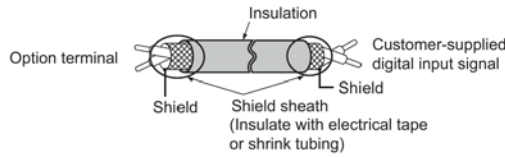
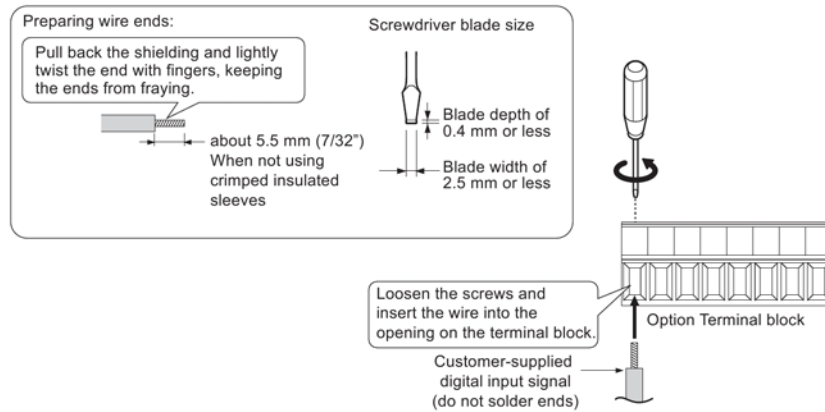

Figure 7: Preparing Ends of Shielded Cable
Figure 8: Preparing and Connecting Cable Wiring
2. There are two screw holes on the drive for use as ground terminals (I). When connecting three options, two ground wires will need to share the same drive ground terminal.
4. Prepare and connect the wire ends as shown in Figure 7 and Figure 8. Refer to Wire Gauges, Tightening Torques, and Crimp Terminals on page 19 to confirm that the proper tightening torque is applied to each terminal. Take particular precaution to ensure that each wire is properly connected and wire insulation is not accidentally pinched into electrical terminals.